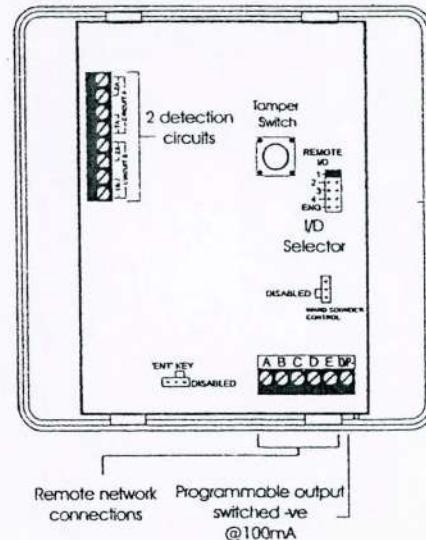

Figure 15. TS700 Remote Arming station Layout
6. If installing the TS700.ARM/STAR, it is recommended that LK1 is cut so that the keypad functions are limited to setting and unsetting, see *Figure 15*.